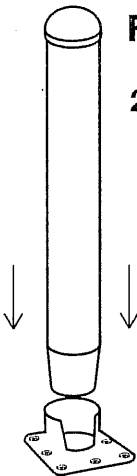

FIG. 2
2. Insert upright poles in socket per Fig. 2. Align ribbing so that pole will not turn.